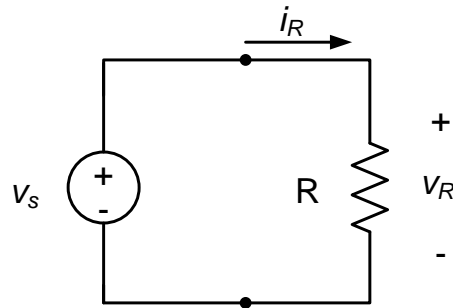
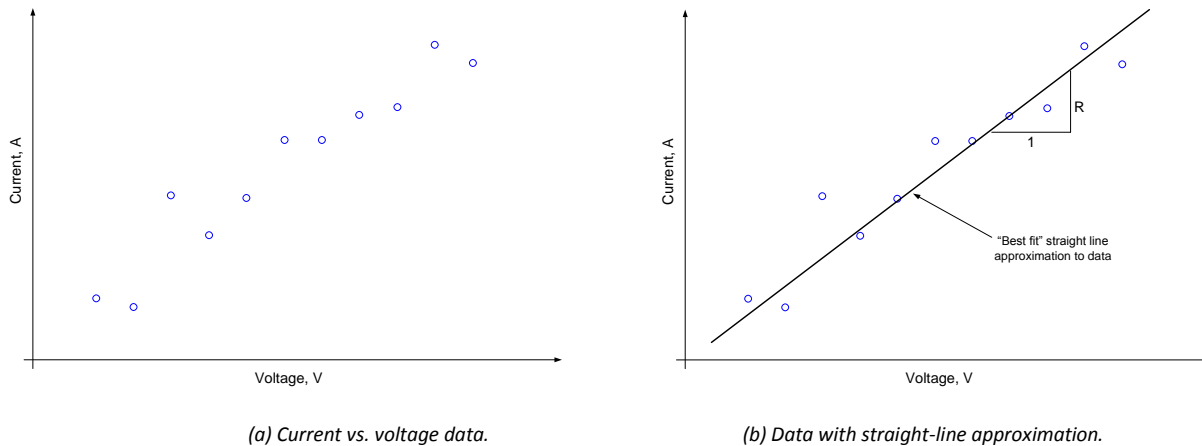

Figure 1. Circuit schematic.
Figure 2. Measured data with “best fit” straight-line approximation.
In order to experimentally determine the current-voltage characteristic for our resistor, we will use the circuit shown schematically in Fig. 1. The arbitrary waveform generator will be used to apply the voltage v_s . We will measure the voltage across the resistor, v_R , and the current through the resistor, i_R , using our DMM. By varying v_s , we can measure a set of values for v_R and i_R and plot v_R vs i_R , as shown in Fig. 2(a). The slope of the line that "best fits" the measured data can then be used to estimate the component's resistance, as shown in Fig. 2(b).
1. Connect the circuit shown in Fig. 1. Use a 100Ω resistor and one of the AWG channels for the variable supply. Use an ohmmeter to measure the actual resistance of your resistor and record the value in your lab notebook.
Experimental data will always contain some uncertainty, so measured current-voltage data for a resistor will never lie exactly on a straight line – see, for example, Fig. 2. Thus, the notion of a “best” straight-line approximation to the data is rather nebulous. It is simplest to draw by eye a straight line through the plotted data. This approach, while used fairly often, has the drawback that no two engineers are likely to draw the same straight line. Thus, we look for a more objective and readily quantifiable approach toward fitting a line to a set of measured data. One common approach toward determining a line which provides a “best fit” to the available data is *least squares curve fitting*. The basic idea behind the least-squares approach toward fitting a curve to data is as follows: